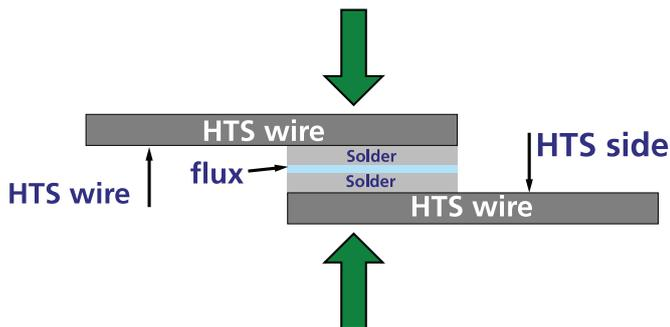

Figure 4. Overlap joint preassembly
- Flip one of the wires over and position the HTS wires together with the correct overlap of the tinned surfaces as shown below in Figure 4.